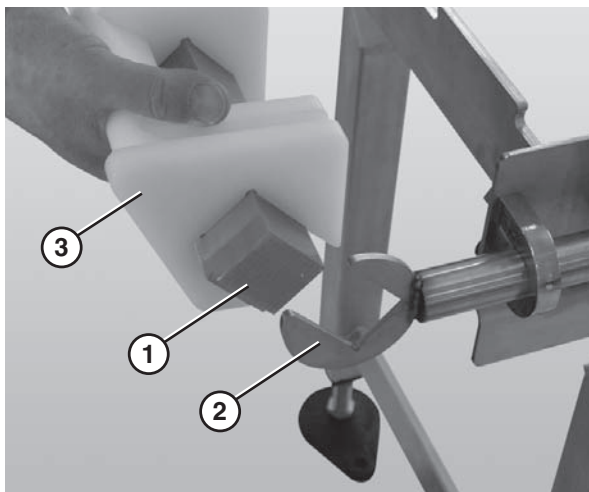

Figure 65
- Slide the nose bar drive or transfer post (**Figure 65, item 1**) out of the nose bar drive weldment or idler hands (**Figure 65, item 2**).
- Remove the nose bar tracking pucks (**Figure 65, item 3**), if applicable.